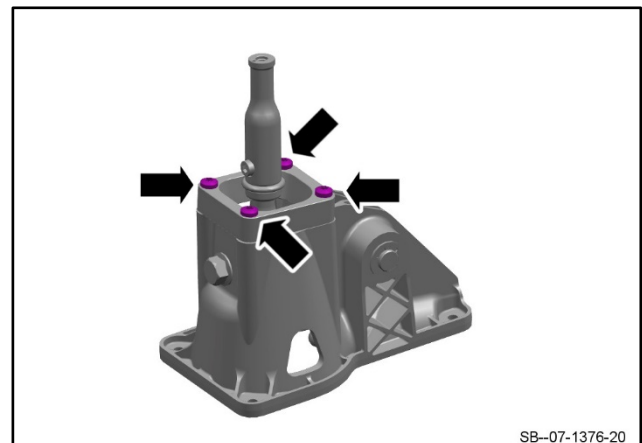

Figure 1
2. Remove the four screws that attach the travel stop to the shifter tower (refer to Figure 1).